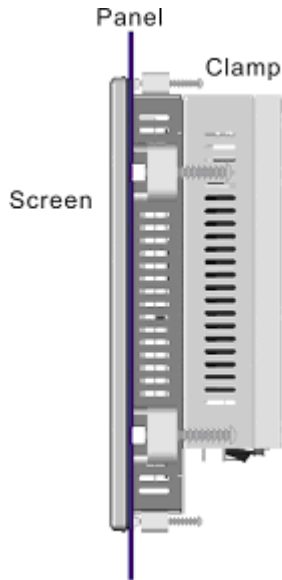

Figure 4-24: Tighten the Panel Mounting Clamp Screws
Step 5: Tighten the screws that pass through the panel mounting clamps until the plastic caps at the front of all the screws are firmly secured to the panel (**Figure 4-24**).